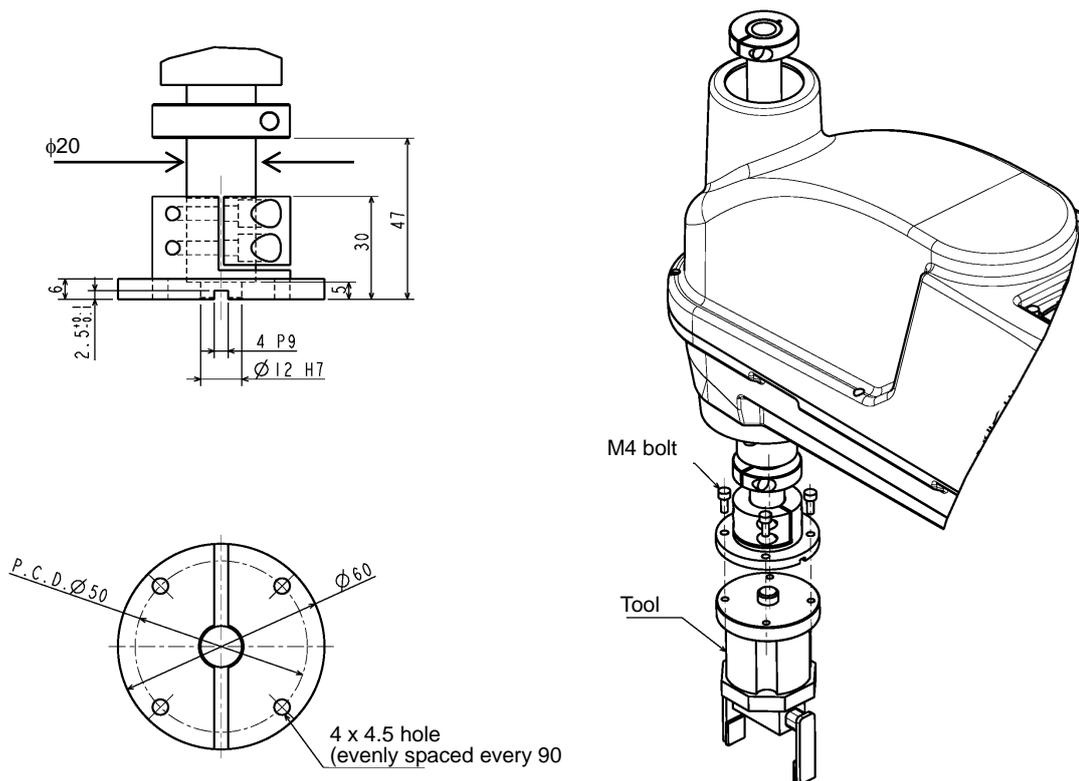

Fig. 10.1 Tool mounting dimensions (KHL-500, KHL-600 and KHL-700)
The tool is mounted on the end of the tool shaft. Dimensions of the tool shaft section are shown in Fig. 10.1. As shown in Fig. 10.1, the tool is centered with the $\phi 12H7$ mating section. The tool direction is adjusted by means of the 4 x 4 keys and secured with four (4) M4 bolts.